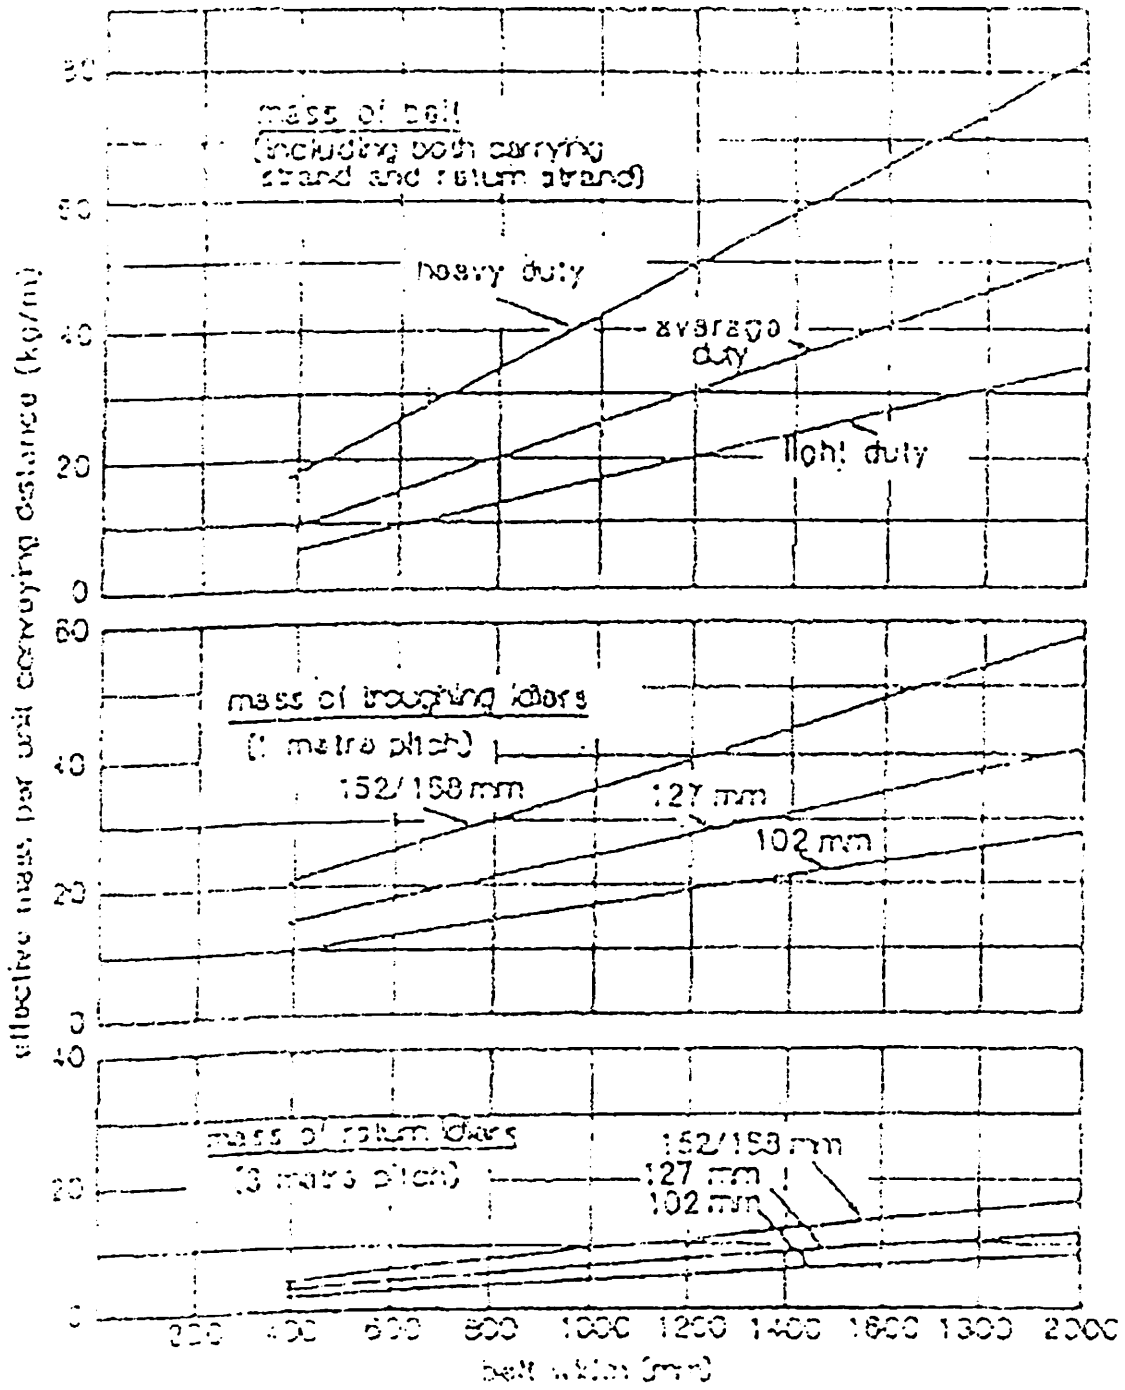

Figure 2: Mass of belt conveyor moving parts approximation
- b) Consider that a copper mine is to use belt conveyor as an alternative cost effective way to transport ore from the pit to the mill at a production rate of 1000 t/hr. Crushed copper ore from an in-pit primary crusher will be conveyed over a distance of 1000m to the secondary crusher stockpile at the mill at an inclination of 6° against gravity. The combination of belt-width and belt-speed that gives the optimum belt conveyor operation is 800mm and 2.2ms^{-1} respectively. Properties of the material include; crushed ore is lumpy and moderately abbrasive, bulk density is 2300kg/m^3 , angle of repose is 38° , and angle of surcharge is 25° . The idlers to use are of 127mm sizes, and 3-roll idlers sets manufactured for average duty roles. (Also use additional information provided in chart-form below by figure 2).